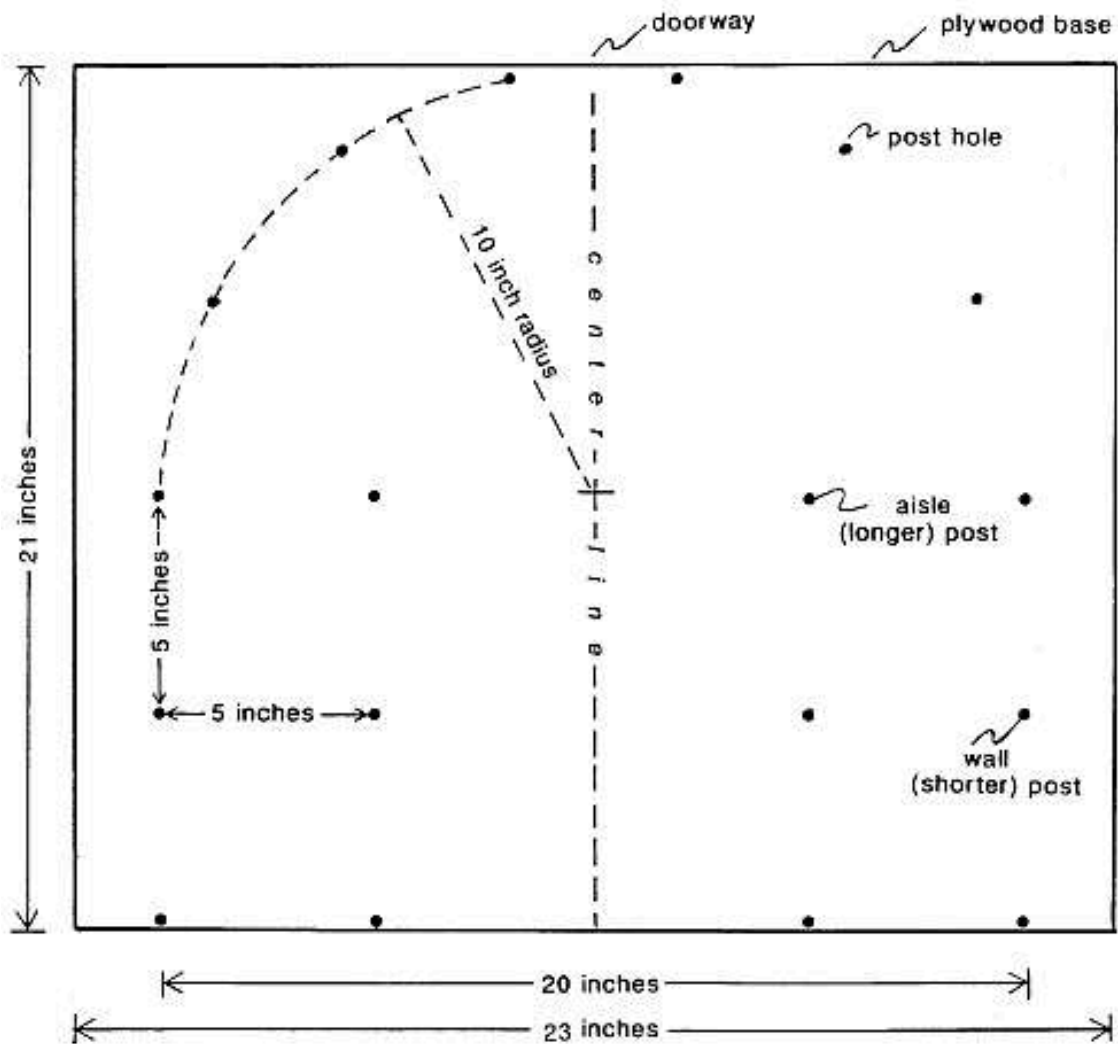

FIGURE 4
2. Prepare the posts (parts A and B on Figure 4 and Figure 5).
- The taller posts (A) define the central aisle, the shorter ones (B) are for the walls.
4. The bench-support poles (parts C on Figures 4 & 5). (1/4 inch dowels).
5. Shelf-support poles (parts D on Figures 4 & 5). (1/4 inch dowels).
6. Wall poles (parts E on Figures 4 & 5). (3/16 inch dowels)
7. Lower cross poles (parts F on Figures 4 & 5). (1/4 inch dowels)
8. Upper cross poles (parts G on Figures 4 & 5). (1/4 inch dowels)
9. Rafter-support poles (parts H on Figures 4 & 5). (1/4 inch dowels)
10. Curved roof rafters (parts I on Figures 4 & 5). (1/8 inch dowels)
11. Roof poles (part J on Figures 4 & 5). (1/8 inch dowels)